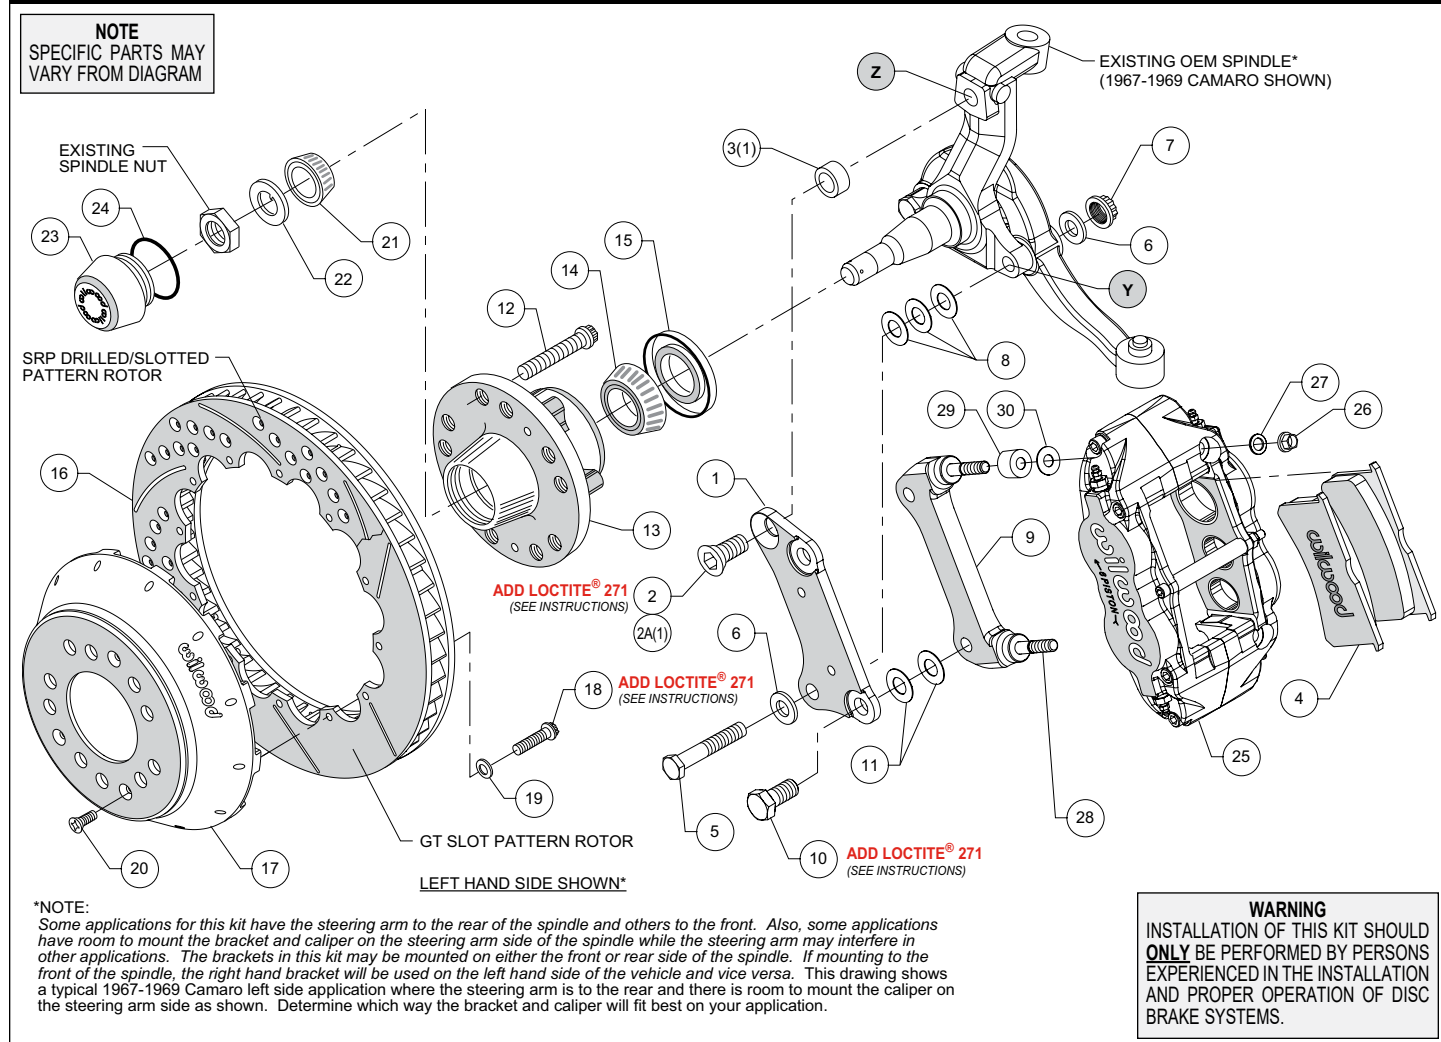
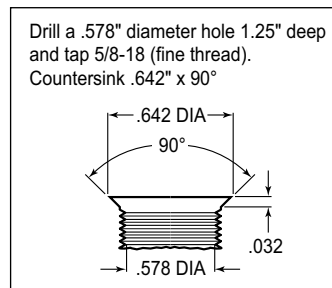
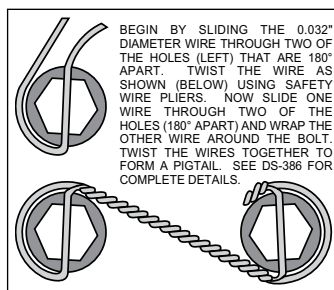

Figure 1. Typical Installation Configuration
Figure 3. Drill and Tap Detail
Figure 4. Safety Wire Diagram
NOTE: Numbers in parenthesis refer to the parts list and Figure 1 on the preceding pages.
•**NOTE:** Some applications for this kit have the steering arm to the rear of the spindle and others to the front. Also, some applications have room to mount the bracket and caliper on the steering arm side of the spindle while the steering arm may interfere in other applications. The brackets in this kit may be mounted on either the front or rear side of the spindle. If mounting to the front of the spindle, the right hand bracket will be used on the left hand side of the vehicle and vice versa. Figure 1 shows a typical 1967-1969 Camaro left side application where the steering arm is to the rear and there is room to mount the caliper on the steering arm side as shown. Determine which way the bracket and caliper will fit best on your application.
•**NOTE:** Some spindles in this year range may require the following modifications (reference Figure 1 and Figure 3): Top anchor pin hole (Z) must be drilled and tapped to the dimensions as outlined in Figure 3. The lower bolt hole (Y) in the spindle used to mount the new caliper bracket, and the mating steering arm hole, must be enlarged to .50" by drilling. It is recommended these modifications be performed by a qualified machinist.
•Install wheel studs (12) into the hub (13), Photo 1. Torque to 77 ft-lb. **NOTE:** There are two five lug patterns in the hub (5 x 4.50 and 5 x 4.75). Make sure of the correct hole pattern for the correct wheel application before installing studs into hub.
•Pack the large inner bearing cone (14) with high temperature disc brake bearing grease (available from your local auto parts store) and install into the backside of the hub (13).
•Install the grease seal (15) by pressing into the backside of the hub (13), Photo 2.
•Orient the rotor (16) and the hat (17) as shown in Figure 1 and Photo 3. Attach rotor to hat using bolts (18) and washers (19). Apply red *Loctite*® 271 to the bolt threads and torque to 155 in-lb using a criss-cross pattern. For an added measure of security, the bolts may be safety wired using standard 0.032 inch diameter stainless steel safety wire as shown in Figure 4. Please refer to Wilwood's data sheet DS-386 (available at www.wilwood.com/Pdf/DataSheets/ds386.pdf) for complete safety wire installation instructions.
•**Disc Brake Spindle Application Only:** Follow the instructions below, but instead use bolt (2A), and spacer (3) in the upper bolt hole location, Figure 1.
•Orient the flat bracket (1) as shown in Figure 1 and Photo 4, and install using bottom bolt (5), washers (6), and nut (7), Figure 1. Initially place three .032" thick shims (8) between the bracket and spindle. Install the upper bolt (2 or 2A). Temporarily tighten bolts. **NOTE:** *The bracket must fit squarely against the mounting surfaces on the spindle.* Inspect for interference from casting irregularities, machining ridges, burrs, etc. Temporarily install the new hub, hat and rotor assembly. Check that the bracket is aligned parallel to the rotor, Photo 5. If not, adjust by adding or subtracting shims (8) on the lower bolt between the bracket and spindle, Figure 1. Once the bracket alignment is correct, remove the upper bolt (2 or 2A), apply red *Loctite*® 271 to the bolt threads, and torque to 120 ft-lb. Torque the lower lock nut to 65 ft-lb.
•The radial mount caliper bracket (9) should initially be installed with clean, dry threads on the mounting bolts. Orient the bracket as shown in Figure 1 and Photo 6, and install using bolts (10). Initially place two .029 thick shims (11) on each bolt between the two brackets, Figure 1. Temporarily tighten the mounting bolts. Later, after the caliper alignment has been checked, the mount bolts will be secured using red *Loctite*® 271.
•Pack the small outer bearing cone (21) with high temperature disc brake bearing grease and install into hub (13). Final install the hub assembly onto the spindle. Secure using spindle washer (22) and OEM spindle nut, Photo 7. Adjust bearings per OEM specifications. Install saved OEM nut lock (if any) and a new cotter pin (not included).
•Screw dust cap (23) into hub (13). Friction created by the o-ring (24) on the dust cap keeps it from unscrewing. **NOTE:** *The O.D. of the existing OEM spindle washer may be larger than the I.D. of the dust cap not allowing it to seat against the hub face. Therefore, use the spindle washer (22) supplied with the kit instead of the OEM washer.*
•Final install the rotor (16 and 17) assembly onto the hub (13), taking care to align the small countersunk holes in the hat with the small threaded holes in the hub. **NOTE:** *The hat must fit flush against the hub face or excessive rotor run out may result.* Install three flat head screws (20) through the small holes in the hat (17), Photo 8, and torque to 85 in-lb.
•**NOTE:** *This kit contains distinct right and left hand calipers that must be mounted in a specific direction, as described below.* Initially place spacer (29) and one .035" thick shim (30) on each stud (28) between the caliper and the bracket, as shown in Figure 1 and Photo 9. Mount the caliper (25) onto the bracket (9) using lock nuts (26) and washers (27), Figure 1. Ensure that the caliper is mounted so the largest pistons are at the rotor exit end of the caliper, in relation to the direction of rotor rotation. Temporarily tighten the lock nuts. The rotor should be centered in the caliper, Photo 10. If not, adjust by adding or subtracting shims (11) between the flat bracket (1) and the caliper bracket (9). Always use the same amount of shims on each of the two mounting bolts. Once the caliper alignment is correct, remove the bracket mounting bolts one at a time, apply red *Loctite*® 271 to the threads, and torque to 77 ft-lb.